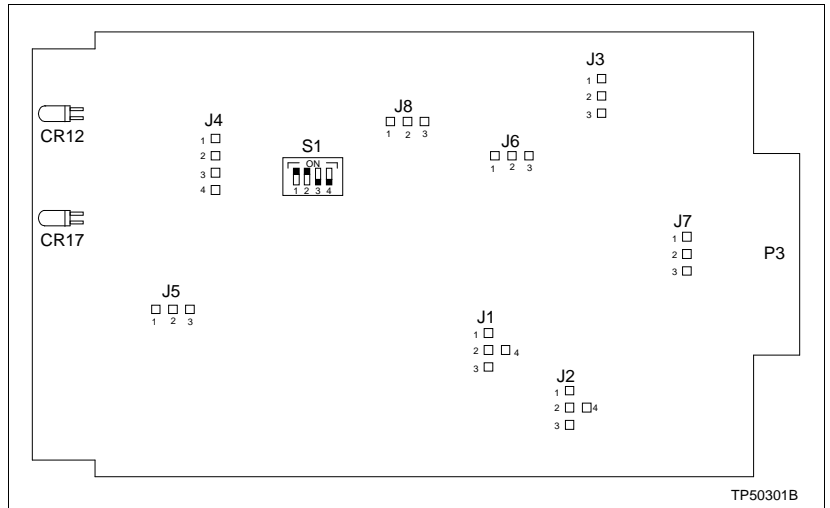

Figure 3-4. Bus Monitor Module Board Layout
Table 3-3 for jumper definitions. See Figure 3-4 for the bus monitor module circuit board layout.
1. Unused monitor inputs must be disabled. Do not enable all switches at once. Doing so will cause a bad status signal. Figure 3-4 shows the factory settings of switch S1.